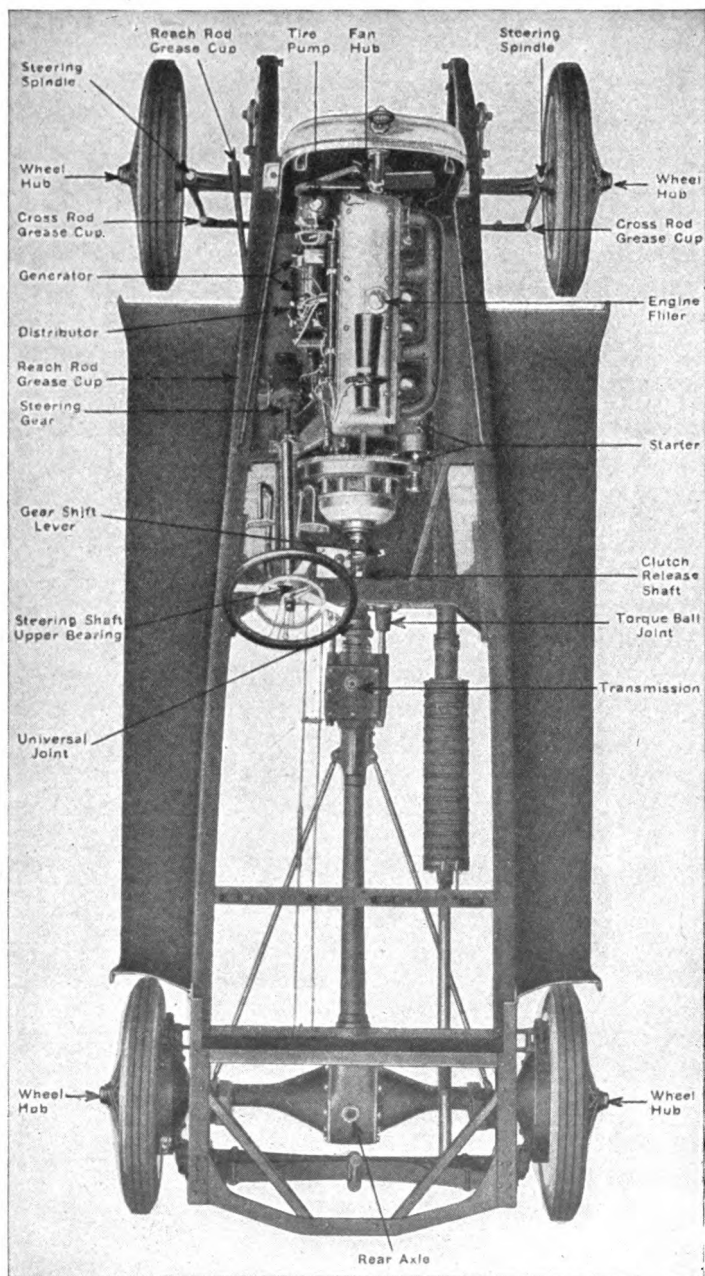

Fig. 1. Plan View of the 1920 Marmon Chassis
**Chassis Assembly.** In the large diagram of a modern motor car, Fig. 1, the relative positions of the various units are clearly shown. In this, note that the engine is placed at the front of the outfit. This is now the position all the modern motor-car manufacturers use. The engine is to generate the power by drawing in, compressing, and exploding gas from gasoline.
**Flywheel.** At one end of the engine shaft is the flywheel. This is a large, wide-faced member of metal, comparatively heavy, the function of which is to store energy (by means of rotation) as the engine produces it and to give it back to the engine at other parts of the cycle when energy is needed, and none is being produced. In short, it is a storehouse of energy, absorbing the same from the engine and giving back the excess when it is needed. In general, this effect is greatest when the mass of metal is farthest from the center, consequently flywheels are made of as large a diameter as is possible, considering the frame members. Note this in the illustration, Fig. 1.
Formerly, practically all motors and transmissions were supported on a *sub-frame*, but it has been found that the same results can be obtained when this extra weight is eliminated. Fig. 1 shows a sub-frame.
In Fig. 1 it will be noted that the engine group and the clutch group are together, forming one unit. The transmission is mounted on the front end of the drive shaft, thus forming another unit. When the motor and the transmission are so located, they form a two-unit power plant. The single-unit power plant, in which the transmission and the motor are in one unit, is the most used construction at the present day. A few manufacturers still mount the transmission on the rear axle.